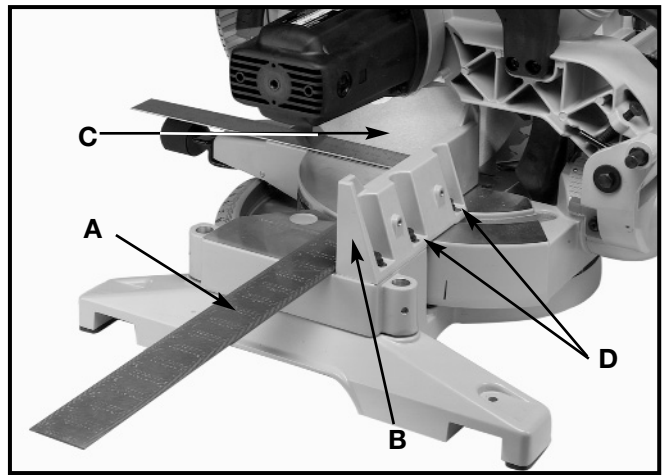

Fig. 15
3. Place one end of a framing square (A) Fig. 15 against the front of the fence (B) and the other end against the blade (C), with the blade locked in the down position. The fence should be 90° to the blade.
4. If an adjustment is necessary, the fence, (B) Fig. 15, can be adjusted by loosening four screws, two of which are shown at (D), that attach the fence to the base. Use the wrench supplied. Adjust the fence (B), and tighten the four screws (D).